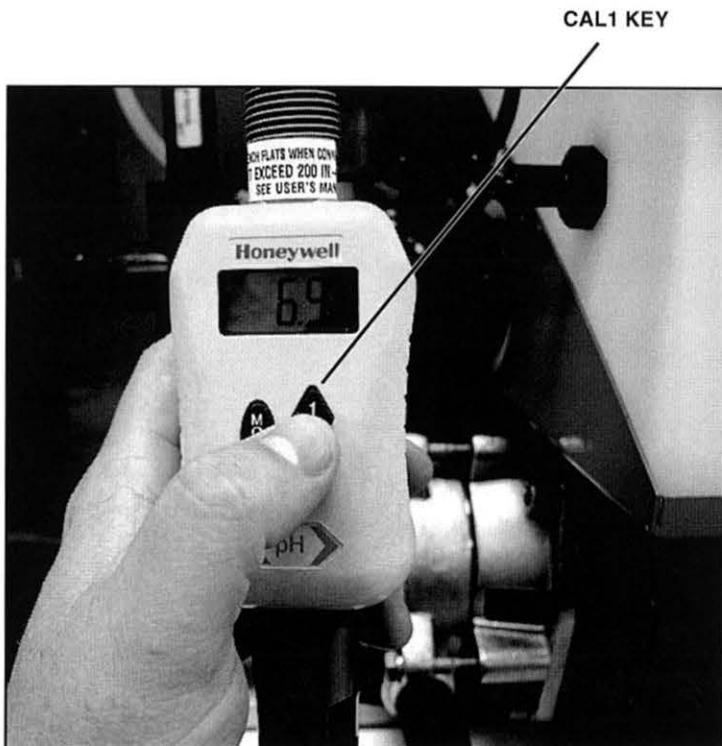

Figure 36. The CAL1 Key
- D. With your free hand, press and hold the **CAL1** key on the sensor module, shown in figure 36, until the display changes from the pH reading. This sets the module to the zero calibration mode.